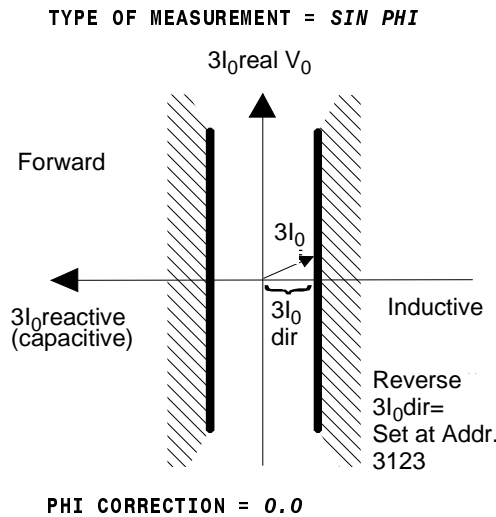

Figure 6-39 Directional Line for $\sin \varphi$ Measurement
- Address 3125 = **sin** φ : the reactive (capacitive) component of the zero sequence current with respect to the displacement voltage (the component of $3I_0$ that leads V_0 or $3V_0$ by 90°) is evaluated by the setting at address 3123 (see Figure 6-39).
The directional line, in this respect, may be rotated within the range $\pm 45^\circ$ — as shown in Figure 6-39.